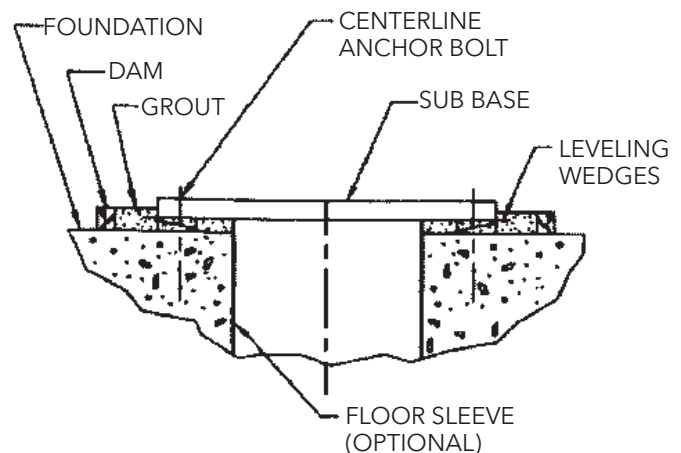

Figure 4
- A. Using leveling wedges. This is shown in Figure 4.
2. Build dam around foundation (See Figure 4). Thoroughly wet foundation.